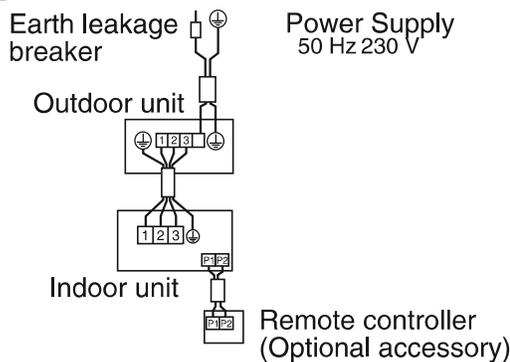

Fig. 29
- **Pair type:** 1 remote controller controls 1 indoor unit. (standard system) **(Refer to Fig. 29)**